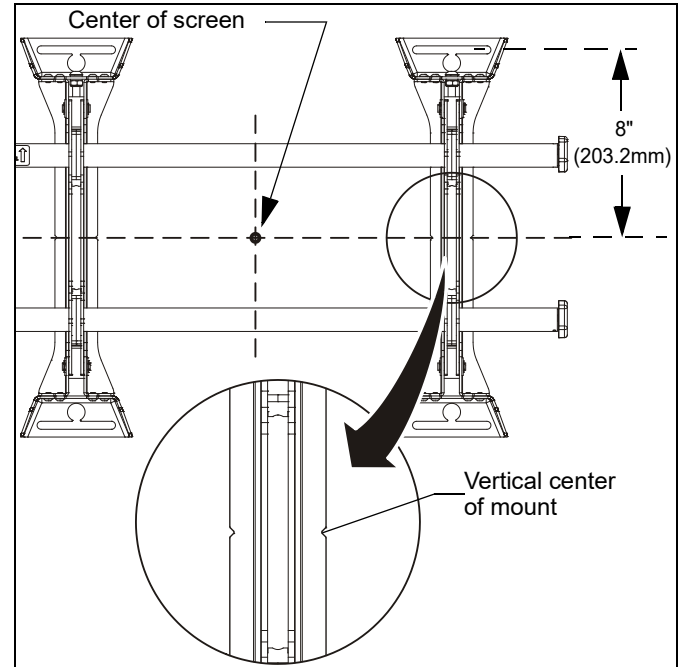

Figure 1
3. Line up the notches on mount (Y) with center of screen marking to determine vertical center. (See Figure 1)
2. Line up the notches on mount (Y) with center of screen marking to determine vertical center. (See Figure 1)
3. Measure up 8" (203.2mm) from the center point to mark location of the upper mounting slots. (See Figure 1)